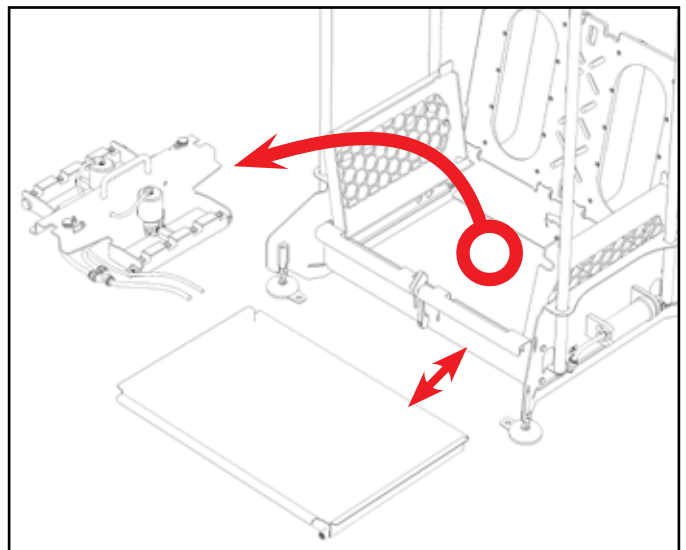

Fig. 9.2: Removing debris and plumbing assembly
1. Slide out catch pan from either opening to remove [Figure 9.2].